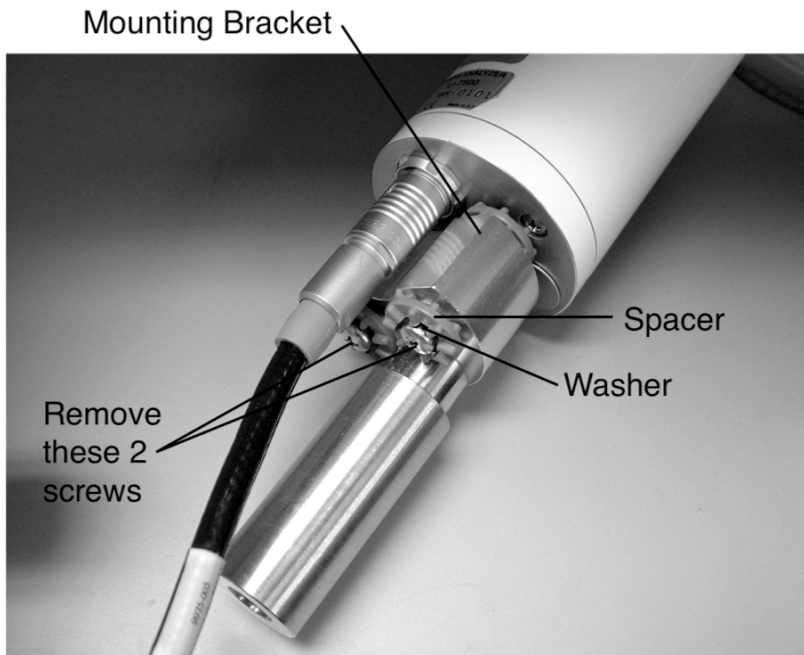

Figure 6-3. Remove the 2 screws on the base of the mounting bracket.
1. The plastic bottles are located in the analyzer housing in the sensor head. The bottles are accessed by removing the mounting bracket from the analyzer housing (Figure 6-3). Remove the two screws on the bottom of the mount; be careful not to lose the spacers and washers.